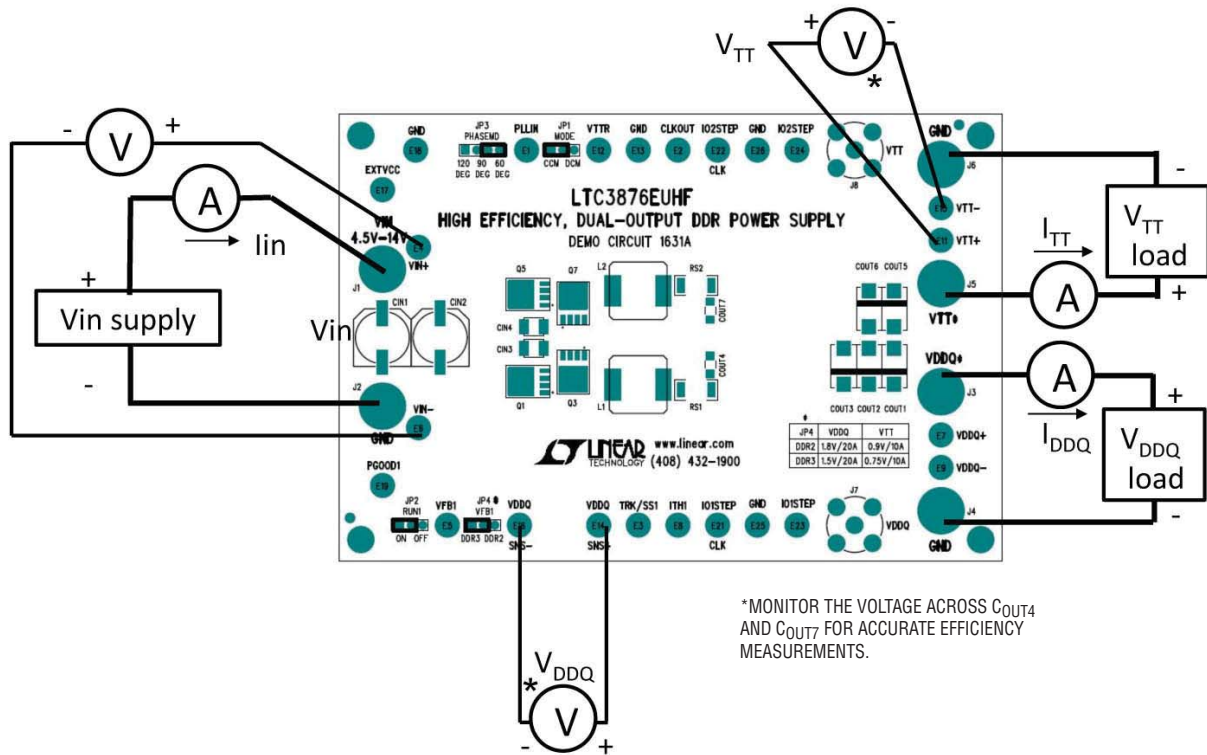

Figure 1. Proper Measurement Equipment Setup
Demonstration circuit 1631A is easy to set up to evaluate the performance of the LTC3876EUHF. Please refer to Figure 1 for proper measurement equipment setup and follow the procedure below.
- 1) With power off, connect the input supply, load and meters as shown in Figure 1. Preset the load to 0A and  $V_{IN}$  supply to be 0V. Place jumpers in the following positions: